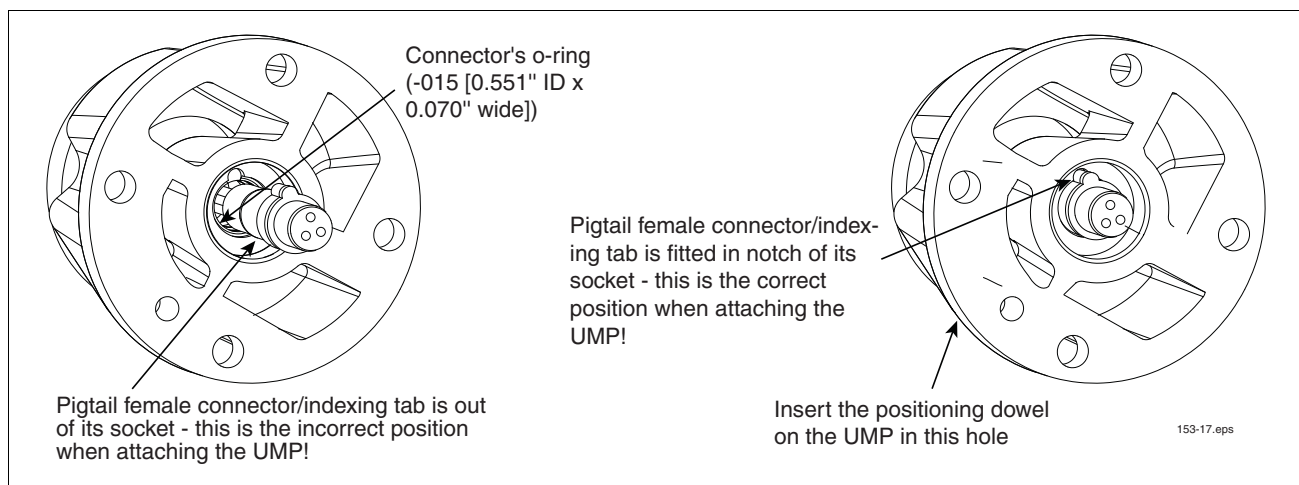

Figure 8. Verifying Pigtail's Female Connector Is Seated Properly
3. Align the UMP positioning dowel and boss with the proper holes in the discharge head and push the UMP into position using hand force only (see Figure 8). The UMP should be snug against the discharge head prior to installing the UMP retaining bolts.